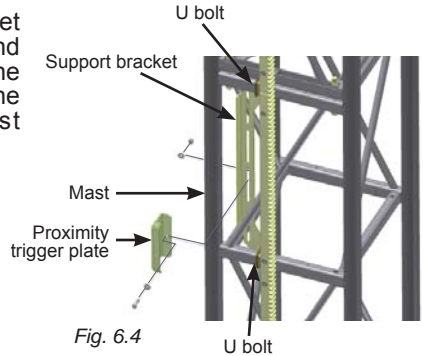

Fig. 6.4
- 1- Slide the trigger plate support bracket (fig. 6.4) in the top part of the second mast section from the top. Using the U bolts, bolt the support bracket to the top and middle bar of the mast section.